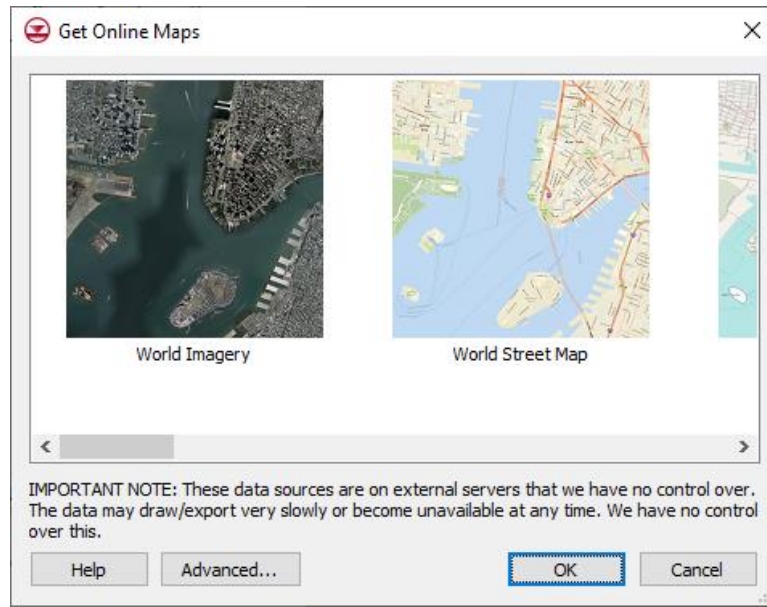

Figure 14 Get Online Maps dialog
4. Click **OK** to close the *Map Locator* dialog and open the *Get Online Maps* dialog (Figure 14).